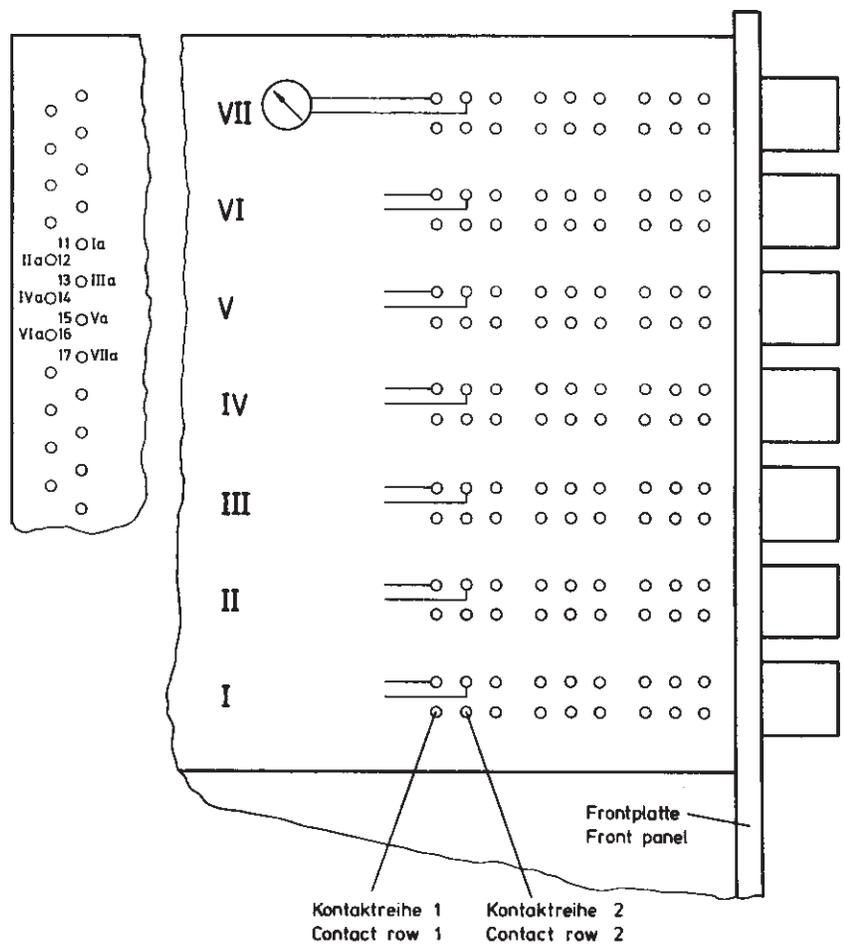

Fig. 5-2 Key set with test points
**Checking the current consumption:** No button must be pressed. Measure at the pushbutton assembly according to Fig. 5-2 using a milliammeter 0 to 10 mA,  $Z_{in} < 10 \Omega$ . The current consumption should be 2 to 7 mA.
Since the FM chokes and the operating-voltage leads are not immediately accessible, it is recommended that the deviation network (section 5.3.16) and the operating voltages at the pushbutton contact rows 1 and 2 (Fig. 5-2) and soldering lugs 1a to VIIa (Fig. 4-7) be always checked first. For the mechanical procedure to be followed for withdrawing the FM chokes, see section 4.19.8.